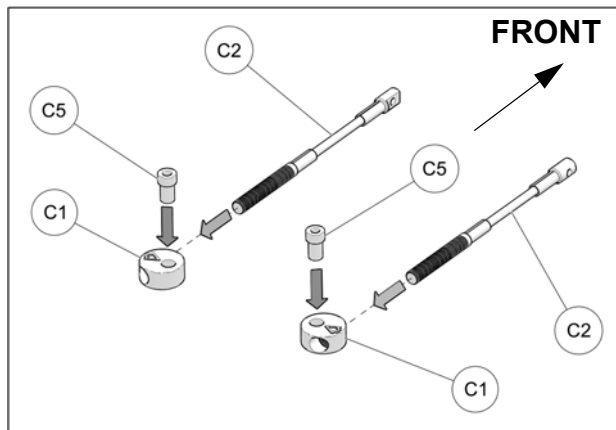

Fig. 31
14. Assemble steering limiter cables (C2), aluminum disks (C1) and step spacers (C5) together as shown on Fig. 31